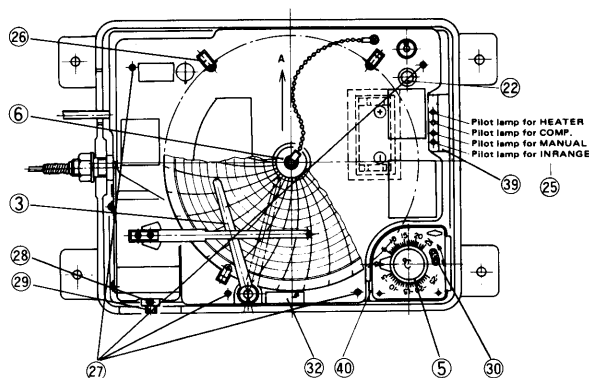

Fig. 2
(The location of the arm is shown with dotted line in Fig. 2)
- (1) Set the recording paper in the centre hole in such a way that it is inserted among three set claws (26), volume setting board (40) and the recording board. At this time, note that the periphery of the recording paper does not roll up.
- (2) Set a date on the recording paper (32) at the arrow mark on the present time plate. Firmly press the recording paper and tighten up the chart nut (6).
- (3) Turn the pen holding arm (3) counterclockwise by pressing it. (The arm is located as shown with solid line in Fig. 2). At this time, confirm that the pen lifting arm is fixed.